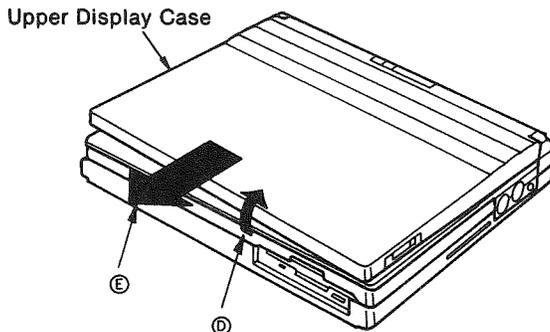

Figure 29
- (4) Raise the upper display case in the direction of arrow **D** and then slide it over in the direction of arrow **E** as shown in Figure 29.